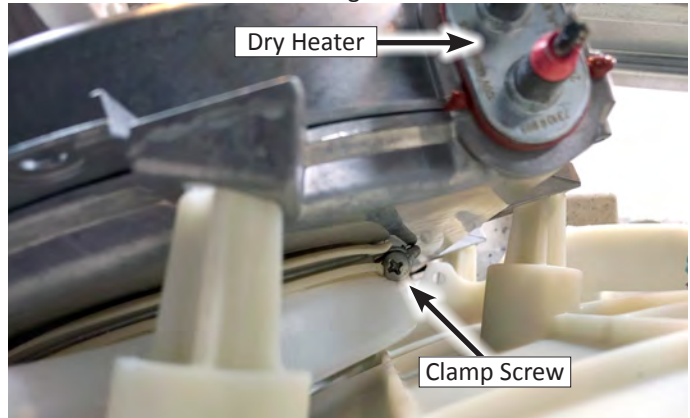

Figure 2
10. From the rear of the washer, using a Phillips screwdriver, loosen the clamp screw securing the heater channel to the condenser duct. See Figure 2.